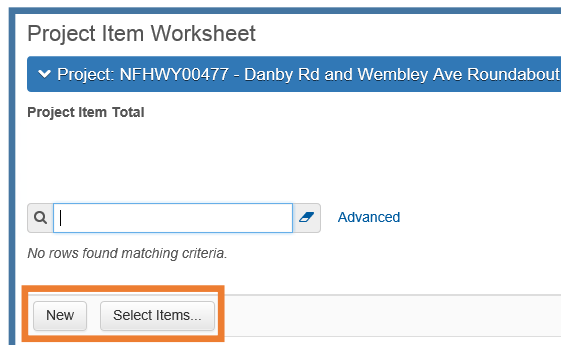

Figure 3.22
You can add items to your worksheet two ways, the Select Items button or the New button (*Figure 3.22*). The **<Select Items>** button allows you to add one item or add multiple items to your item worksheet at once. The **<New>** button allows you to add one item to your item worksheet at a time. Note: When searching items using the New button, the unit of measure for the item is not displayed.
4. Click the **<Select Items>** button (See Figure 3.22).
5. (A) In the auto-complete item field, type at least 3 characters of the item number or description. Any item containing that string of 3 characters will appear.
6. (B) Select the item(s) you want to add, a green checkmark will appear next to the selected item. The number of items you have selected in total will appear in the upper right.
7. (C) You can search for and select multiple items before clicking the **<Add to Project>** button on the lower right of the screen.